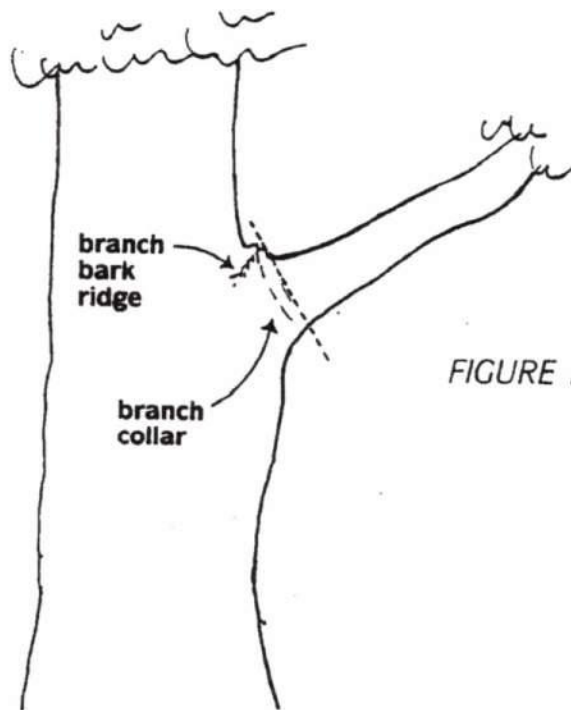

FIGURE 1. When removing a branch, the final cut should be just outside the branch bark ridge and collar.
- C. When removing a live branch, pruning cuts should be made in branch tissue just outside the branch bark ridge and collar, which are trunk tissue. *(Figure 1)* If no collar is visible, the angle of the cut should approximate the angle formed by the branch bark ridge and the trunk. *(Figure 2)*